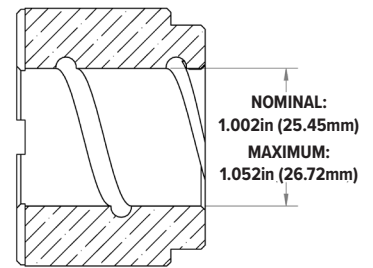

Fig 16A
1. Inspect the bushings (item 4A). The silicon carbide parts will not wear under normal operation. Polishing on a silicon carbide surface is a normal occurrence and usually does not require replacement. Check for signs of melting around the perimeter of the bushings. Make sure that the groove on the bushing ID is not plugged. Check for chips or cracks. Check bushings for wear. If the bushings appear worn, follow the steps listed in the section “Replacing Wear Components, Impeller Bushings”. See figure 16A.